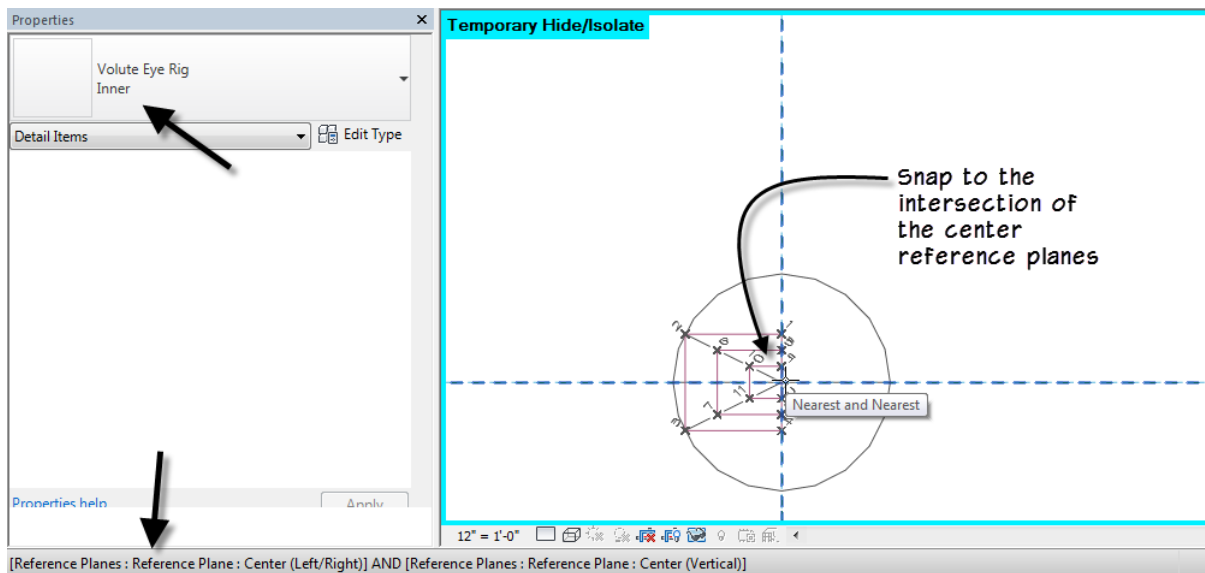

FIGURE 12—PLACE ANOTHER RIG FOR THE INNER POINTS
4. From the Type Selector, choose **Inner** and then click at the intersection of the two center reference planes to place it (see Figure 12).